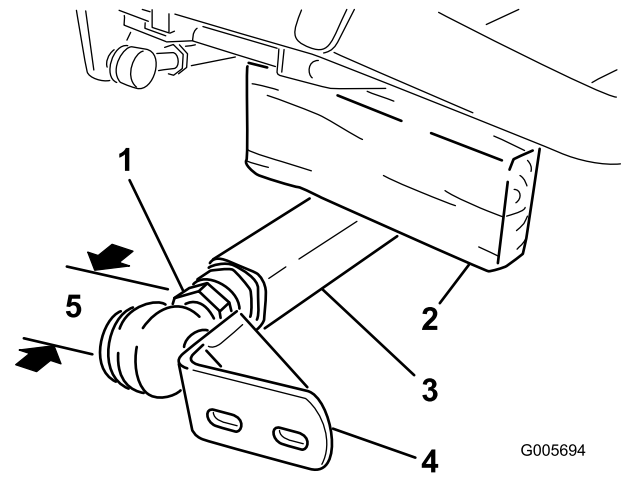

Figure 6
3. Have another person push down on the left push arm. Insert a 51 x 102 mm (2 x 4 inch) block of wood between the frame and the top of the push arm (Figure 6). Screw the ball joint into the left-hand push arm until the center of the ball joint is 60 mm (2-3/8 inches) away from the front of the push arm (Figure 6). Do not tighten the jam nut.